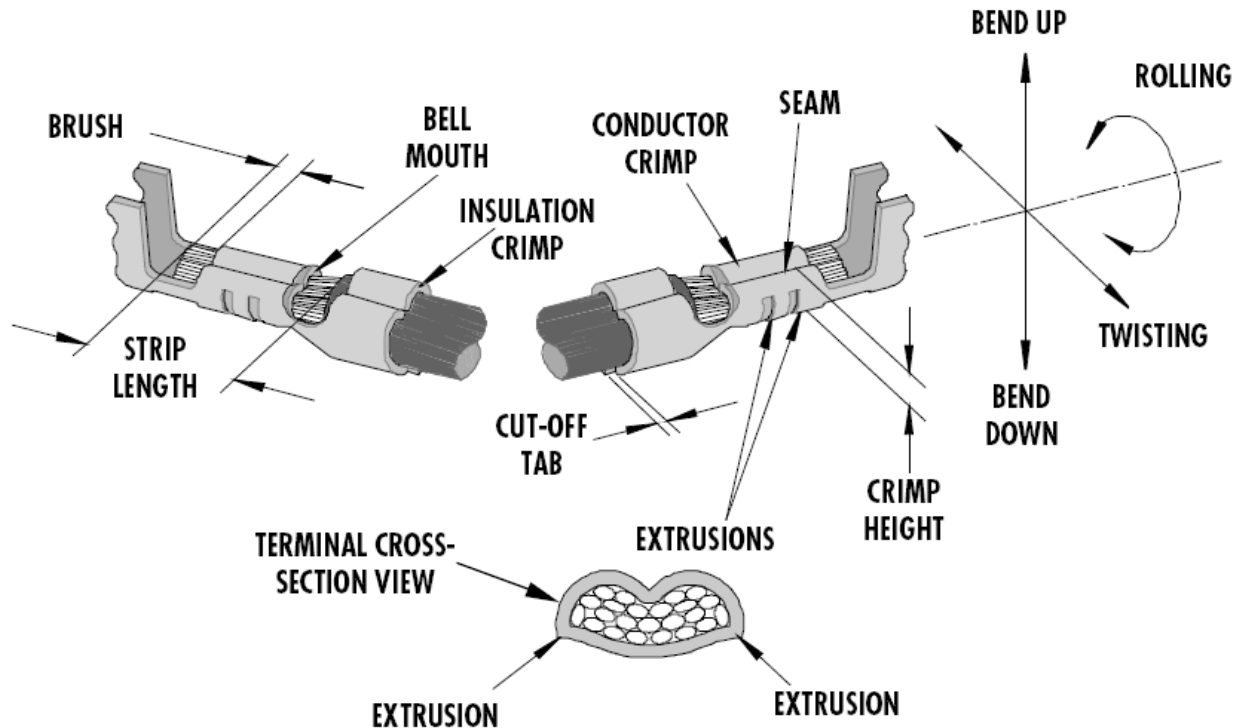

FIG. 8
### 4.1 Definition ( FIG. 8)
- The conductor crimp height is measured from the top surface of the formed crimp to the bottom radial surface. Do not include the extrusion points in this measurement. (see fig. 8). Measuring crimp height is a quick, non-destructive way to help ensure the correct metallurgical compression of a terminal around the wire's conductor and is an excellent attribute for process control.